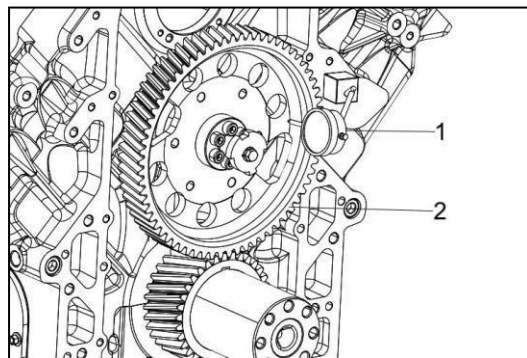

Figure 92
- Install a dial indicator (Figure 92, 1) on the cylinder block. Move the camshaft (Figure 92, 2) back and forth to measure the end play. Record the measurement. See Camshaft specifications for the service limit.